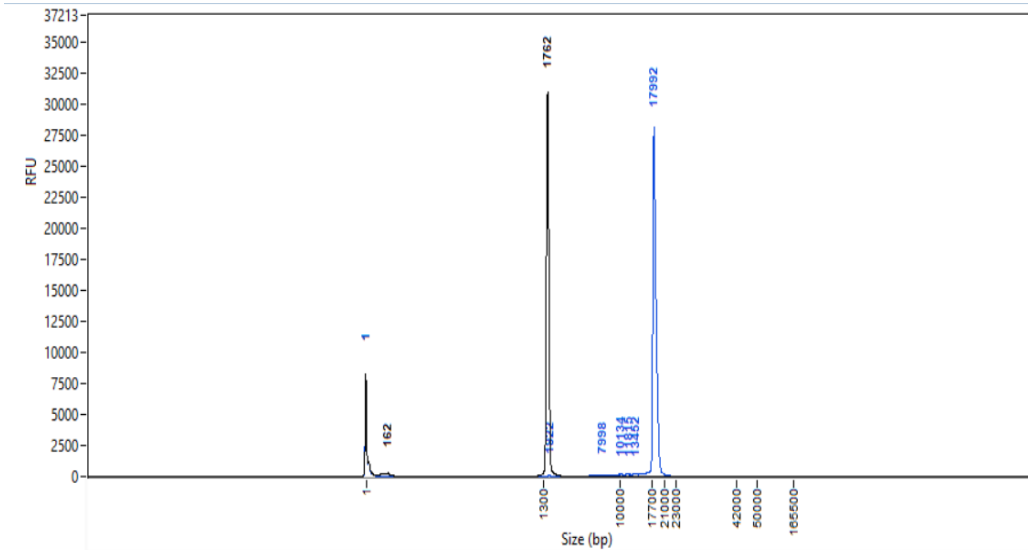

Figure 1. Example Femto pulse QC of the 16S amplicon monomer (~1.5 kb) and 12X concatemer (~18 kb) final SMRTbell libraries.
7.14	<p>Take a 1 μL aliquot from each tube. Make a 1:5 dilution of the sample in Elution buffer and measure the DNA concentration with a Qubit fluorometer using the 1x dsDNA HS kit. Calculate the total mass. Expect 10–20% recovery of the starting Kinnex-PCR product.</p> <p>Recommended: Further dilute each aliquot to 250 $\text{pg}/\mu\text{L}$ with EB. Measure the final SMRTbell library size distribution with a Femto Pulse system (Figure 1).</p>